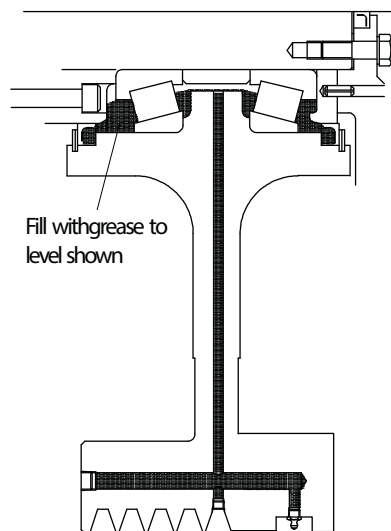

Figure 2
- 2.2.12 Grease the bearing cups and the seal surface on the bearing quill. Fill the grease seal lips with grease. Use a grease gun and pre-fill the grease inlet passages. DO NOT fill the relief passage. Fill area between bearing cone and seal surfaces as shown in Figure 2. Rig the flywheel into position and slide it over the shaft until the inner cup is against the cone on the sleeve. Take care not to damage the inner grease seal as it passes over the bearing cone. Hold the flywheel in position.
- 2.2.19 Pump 1 oz. - approximately 20 pumps from a hand grease gun - of (Mobilgrease XHP222 special or equivalent) grease into the flywheel bearing cavity. Remove excess grease from fittings. The bearing cavity should be about 1/3 to 1/2 full. Refer to Figure 2.